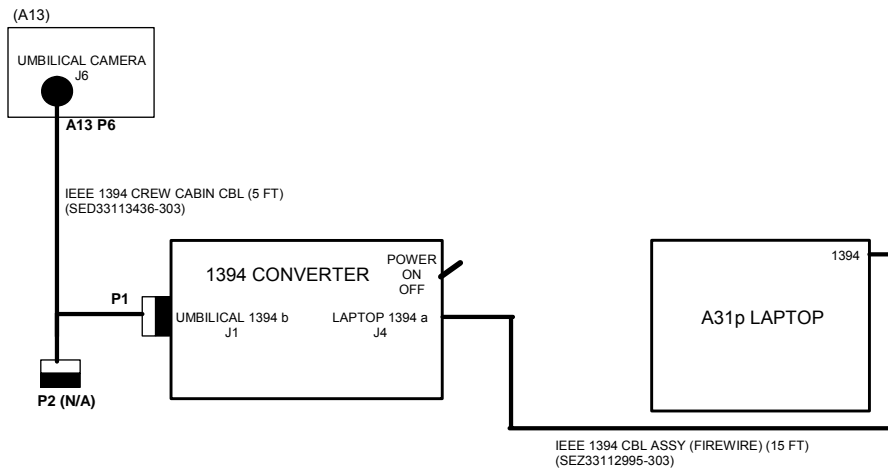

Figure 12-9.- Hardware configuration.
4. Configure hardware per figure 12-9 below making Firewire cable connection to laptop last: